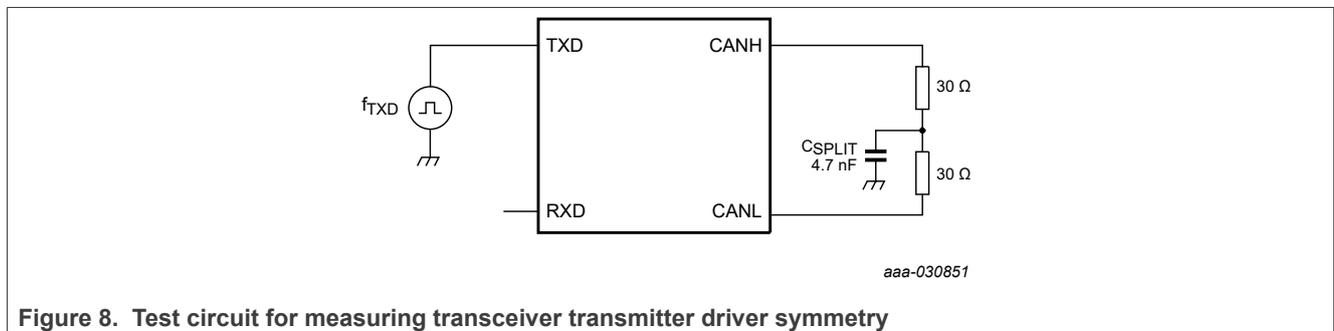

Figure 8. Test circuit for measuring transceiver transmitter driver symmetry
- [1] Only the TJA1044GT(K)/3 and TJA1044BT(K) variants have a V_{IO} pin; all circuitry is connected to V_{CC} in the other variants.
- [6] The test circuit used to measure the bus output voltage symmetry and the common-mode voltages (which includes C_{SPLIT}) is shown in Figure 8.